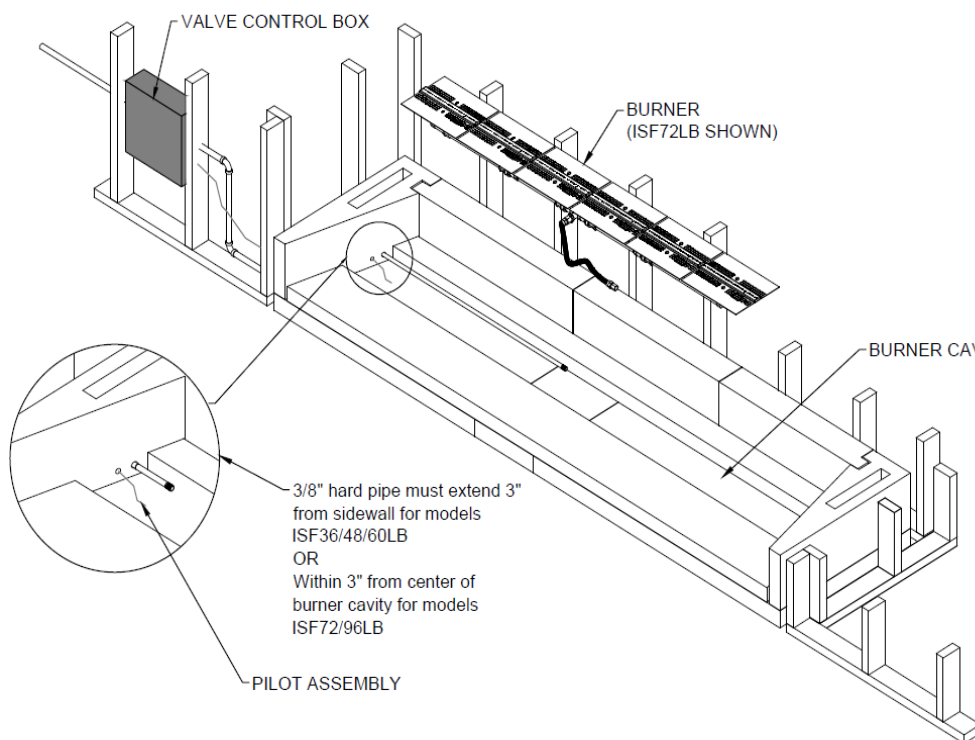

FIGURE 43
- 4) The 48”, 60”, and 72” Maximus Linear fireplaces (82L48, 82L60, and 82L72) will require the ISF36/48/60LB (respectively): Gas supply piping for these models shall terminate not less than 3” from sidewall. **(Figure 43)**
- 5) The 96” and 120” Maximus Linear fireplaces (82L96 & 82L120) will require the ISF72/96LB (respectively): Gas supply stub piping for these models shall terminate within 3” from center of the cavity. **(Figure 43)**